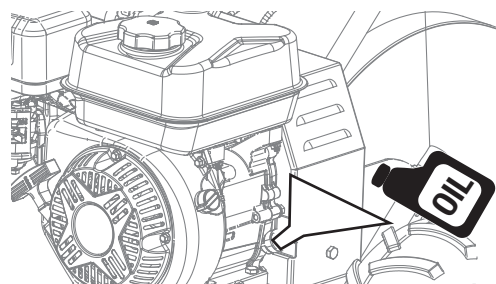

Figure 1-8
- Secure the oil cap and wipe off any excess oil. See Figure 1-8.